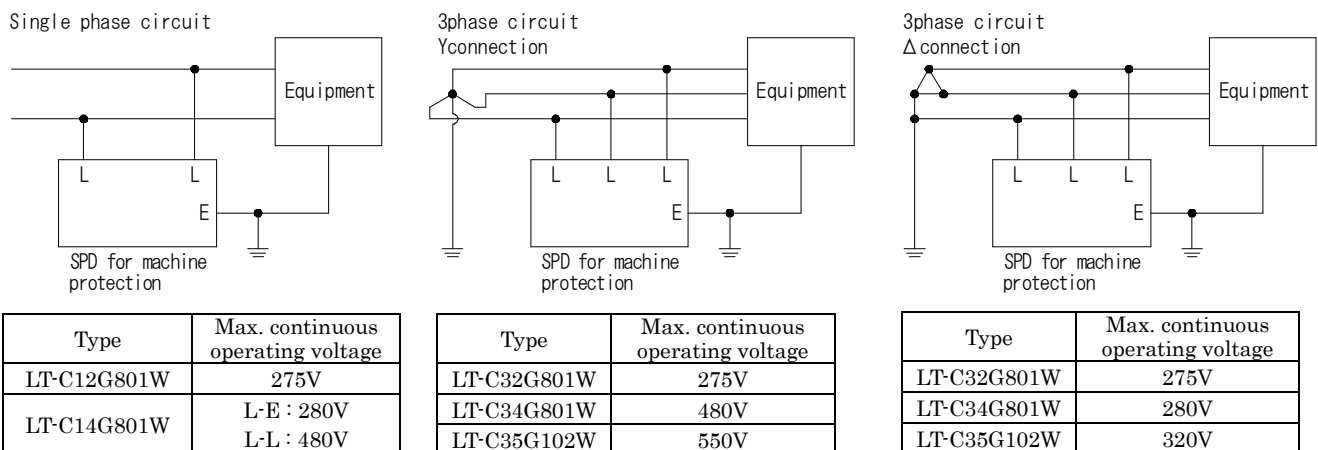

Fig.1 SPD installation circuit
- ① The SPD should be installed in a metal enclosure. (Recommended example : Metal case with transparent window)
- ② Install the SPD as shown in Fig.1.